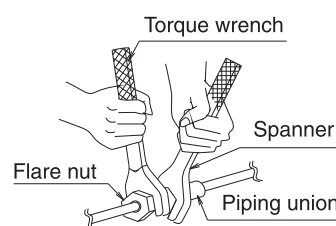

Fig. 6
(1) Connect the piping.
- Be sure to use both a spanner and torque wrench together, as shown in the drawing, when connecting or disconnecting pipes to/from the unit. (Refer to Fig. 6)